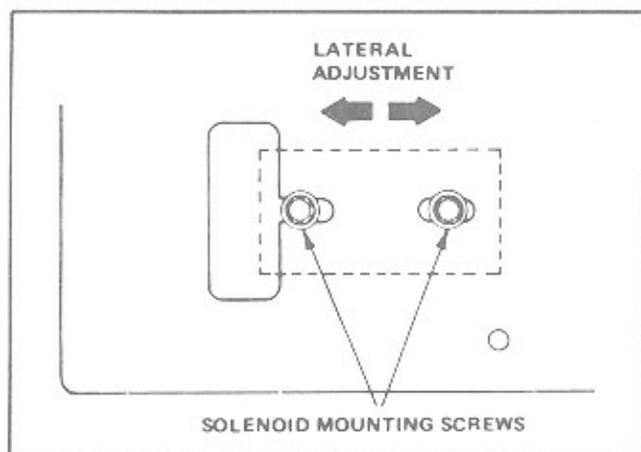

Figure 3-10. Lateral Adjustment
2. Loosen the solenoid mounting screws and with the roll pin against the plunger, position the solenoid so that there is a .015 to .025-inch gap between the sprag lever and the highest point on the sprag wheel (see figure 3-10).